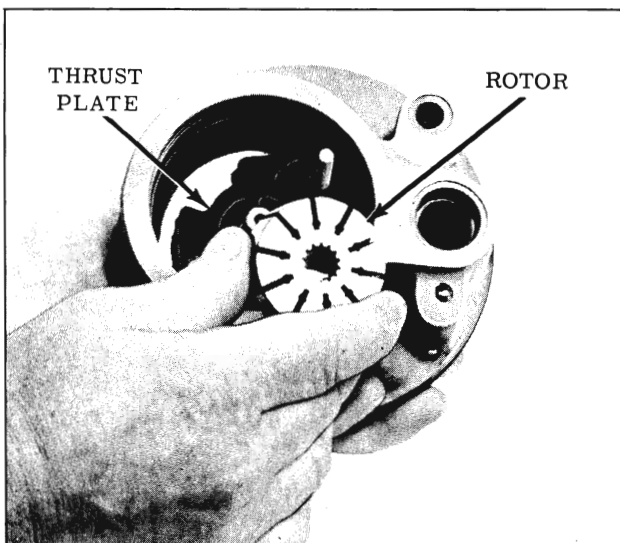

Fig. 4-236 Removing Rotor and Thrust Plate
11. Remove rotor and thrust plate. (Fig. 4-236)